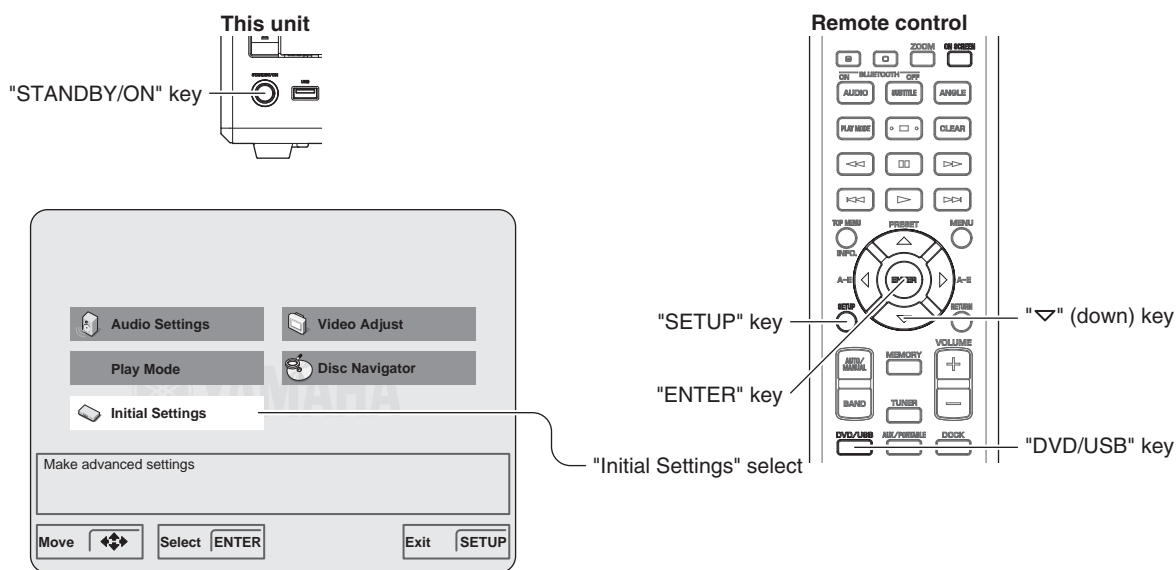

Fig. 6
3. Press the "STANDBY/ON" key of this unit to turn on the power. (Fig. 6)
4. Press the "DVD/USB" key on the remote control to select the input DVD. (Fig. 6)
5. Press the "SETUP" key on the remote control. (Fig. 6)
The SETUP menu is displayed on the TV monitor. (Fig. 6)
6. Move the cursor to [Initial Settings] by pressing the "DOWN" key on the remote control and press the "ENTER" key. (Fig. 6)